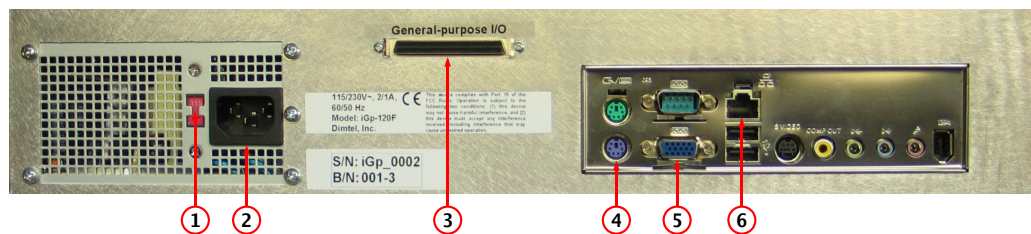

Figure 3: Rear panel features
WARNING: Before connecting power to the unit make sure the voltage selection switch (Fig. 3, item 1) is in the correct position (115 or 230 V).
1. Configure voltage selection switch (Fig. 3, item 1). Mains supply requirements for the iGp-64F are listed in Table 8;
7. Connect a PS/2 keyboard (Fig. 3, item 4);
8. Connect a video monitor (Fig. 3, item 5);
Setup program is included in the **IOC** for configuring the important features of the iGp-64F. The program can be executed locally or remotely. For local execution one must first connect a keyboard (Fig. 3, item 4) and a video monitor (Fig. 3, item 5) to the system. For remote setup, use **ssh** after system bootup to establish connection. In both setup methods the user must login as **root** (initial password is supplied with the system). If the newly received iGp-64F must be configured remotely (when, for example, a keyboard or a monitor is not available), such configuration can be performed using a dedicated network. Set up a network consisting of the iGp-64F, a network hub or a switch, and a remote computer. The iGp-64F is delivered with the following network configuration:
- Make sure no cable is connected to the general-purpose digital **I/O** port (Fig. 3, item 3);